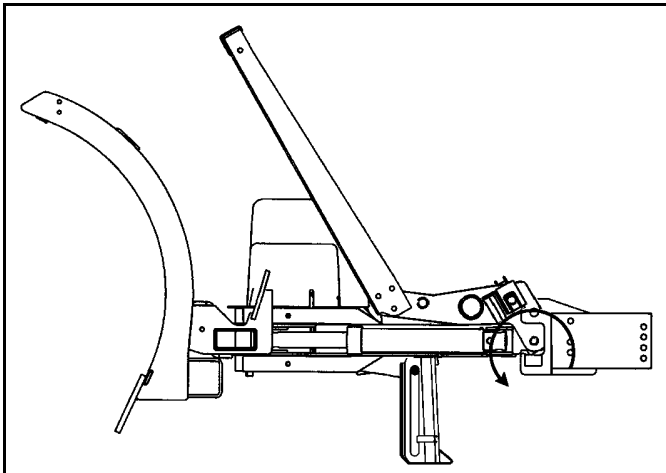

Figure 1-13
9. Rotate jack stand down and raise A-frame by pressing the up button. (See Figure 1-13).